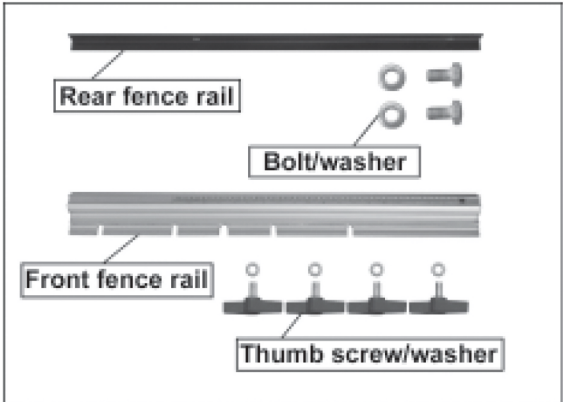

Figure 3
Install the rear fence rail to the table with (2) M6-1.0 x 20 hex bolts and (2) flat washers M6 (Fig. 3).
Install the front fence rail to the table with (4) thumbscrews and (4) flat washers M8 (Fig. 3).
- Remove the rip fence rail from the front of the table by loosening the 4 thumbscrews (Fig. 3 on page 8).
- Replace the rip fence guide, and retighten the 4 thumb-screws (Fig. 3 on page 8).